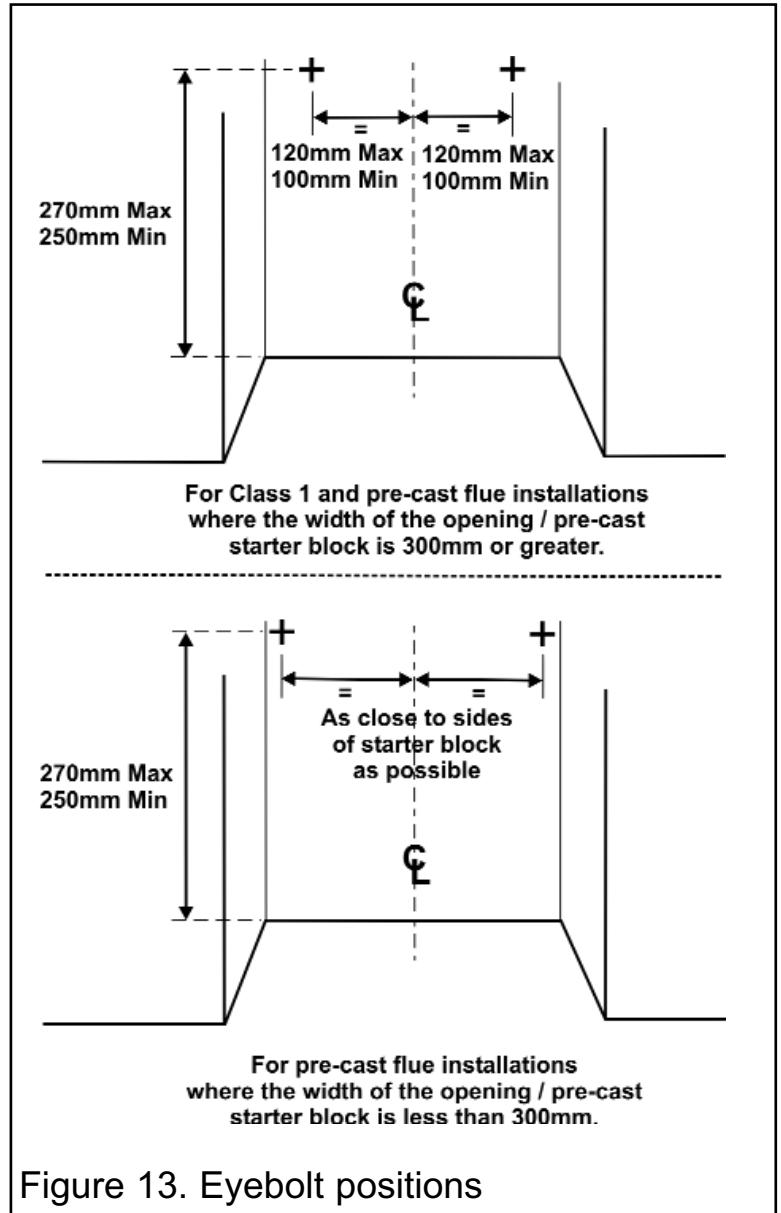

Figure 13. Eyebolt positions
2. Drill two holes in the rear wall of the fireplace for the eyebolt plugs. The holes should be drilled within the range of positions shown in figure 13 using a suitably sized masonry drill for the fibre plugs supplied. The holes should be equidistant each side of the centre line of the fireplace to ensure that the appliance finishes centrally in the opening when tension is applied to the cables.